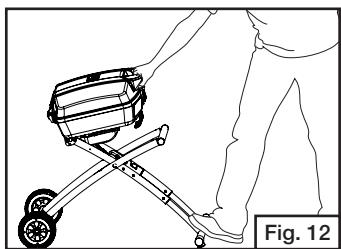

Fig. 12
- Place foot on towing handle, grasp lid handle and lift until stand is fully extended. (Fig. 12)